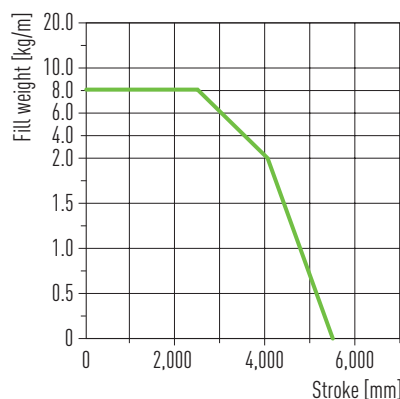

Fig. 4.10 **Maximum permissible additional load as a function of the stroke, Series 2600 (source: igus)**
- Observe the maximum additional load from cables and hoses that is permitted based on the stroke (see Fig. 4.10).